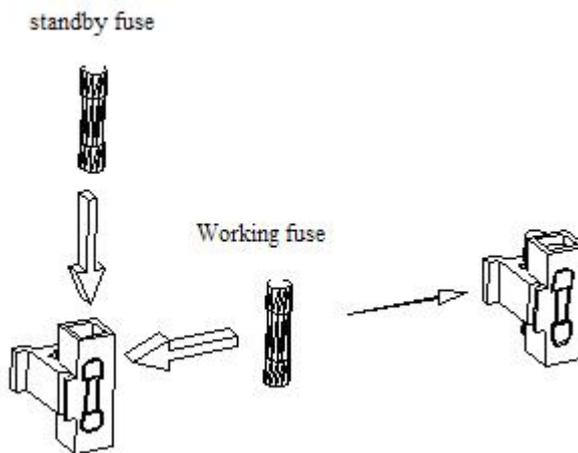

Figure 3-8a STEP 1
1. Pull-out fuse holder from the AC power outlet as shown in Figure 3-8a. Push a 2A fuse into the holder, and also can put a standby fuse into spare slot.